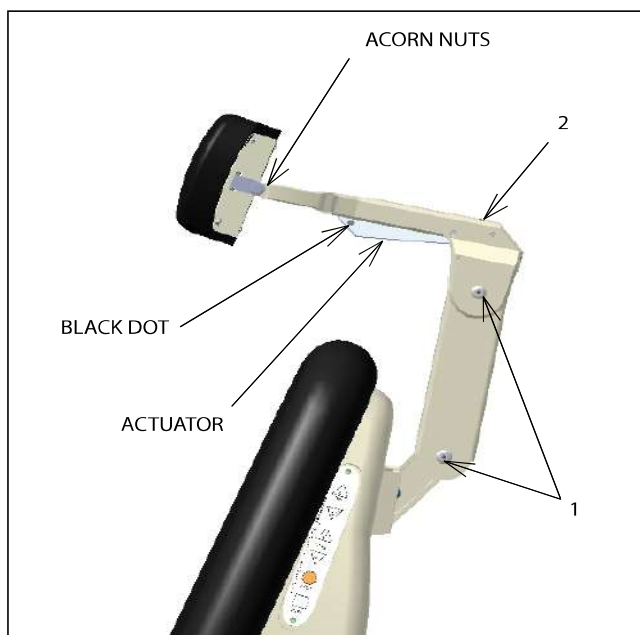

FIGURE 2
**2.1.2.1.** The No. 18, 22, 26 headrest is designed so it can be operated with just one hand. To unlock, squeeze the clear plastic actuator into lock housing. This will allow both pivots of the articulating arm to rotate so the headrest can be moved to a new desired position. Once in the new position, release the actuator. Make sure the actuator expands to its original position fully exposing black dot on handle to insure a positive lock. The headrest pad is free to rotate at all times. (See Figure 2).
sion on the pad rotation. By tightening the two hex acorn nuts on the pad pivots with a 3/8" open end wrench, the tension will be increased. To adjust the drag on the pivots of the articulating arm, loosen the set screw in the center of the pivot (Figure 2, item 1) using a 3/32" hex key wrench. Next, tighten the pivot screw on the other side of the pivot, using a 1/8" hex key wrench. Now, retighten the set screw to retain the pivot screw at the new adjustment. Either pivot may be adjusted.
2.1.3.2. The third adjustment is for proper clearance of the block dot to indicate that the headrest is properly locked. If the dot does not fully clear the lock housing when the headrest is locked securely, turn the set screw located at the top of the lock housing (Figure 2, item 2) counterclockwise until the dot on the actuator is fully exposed.